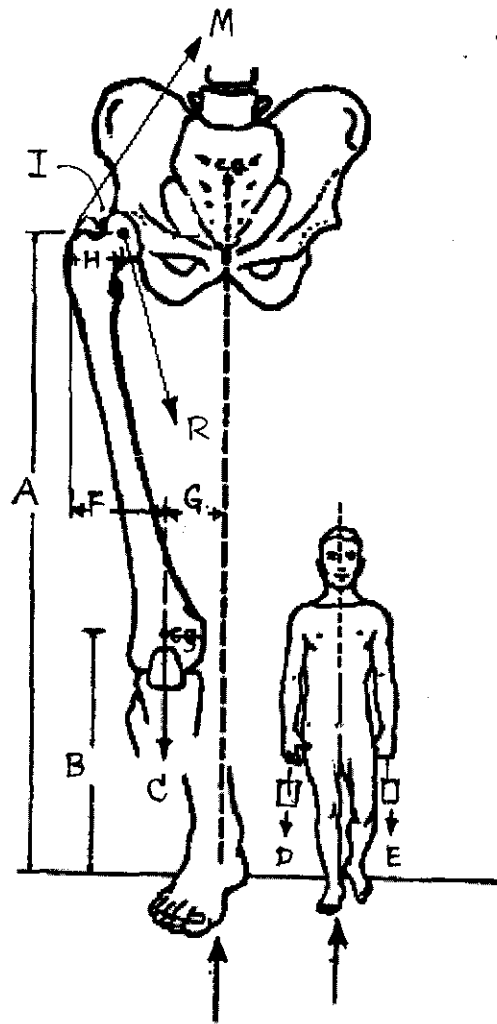

Figure 6: Free body diagram for question #5.
4.1) Compare the advantage and disadvantage of the watches shown in figure 6, based on ergonomic concepts. (10 points)
5. A 150 lb man is carrying a 20 lb bag in each hand while walking very slowly. All data from x-ray film for free body diagram (as shown in figure 6) are given in table 2. What is the reaction force on the head of the supporting femur when all of the weight is on one foot? (15 points)
Table 2: Important data for free body diagram in figure 6.